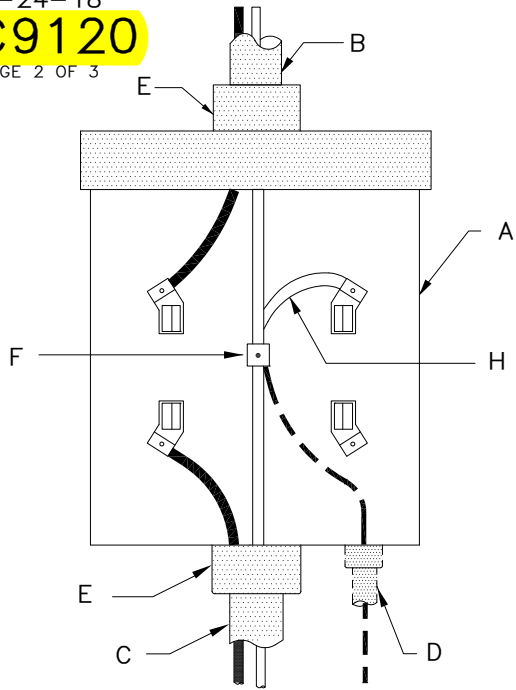

FIGURE 1
- SINGLE POSITION 1-PHASE, 2-WIRE, 120V SERVICE METER (SEE FIGURE 1)